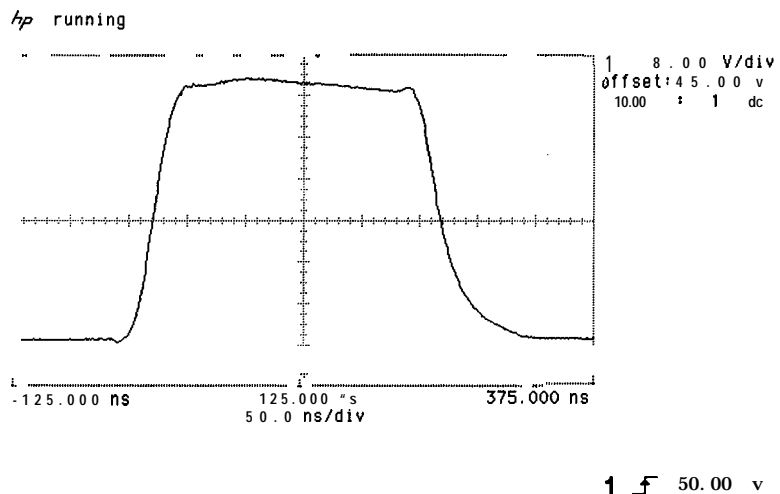

Figure 3-22. 50V_{p-p} Signal
30. Adjust the spectrum analyzer front-panel INTENSITY control for 50 V peak-to-peak (6.25 divisions) as indicated on the oscilloscope. See Figure 3-22.